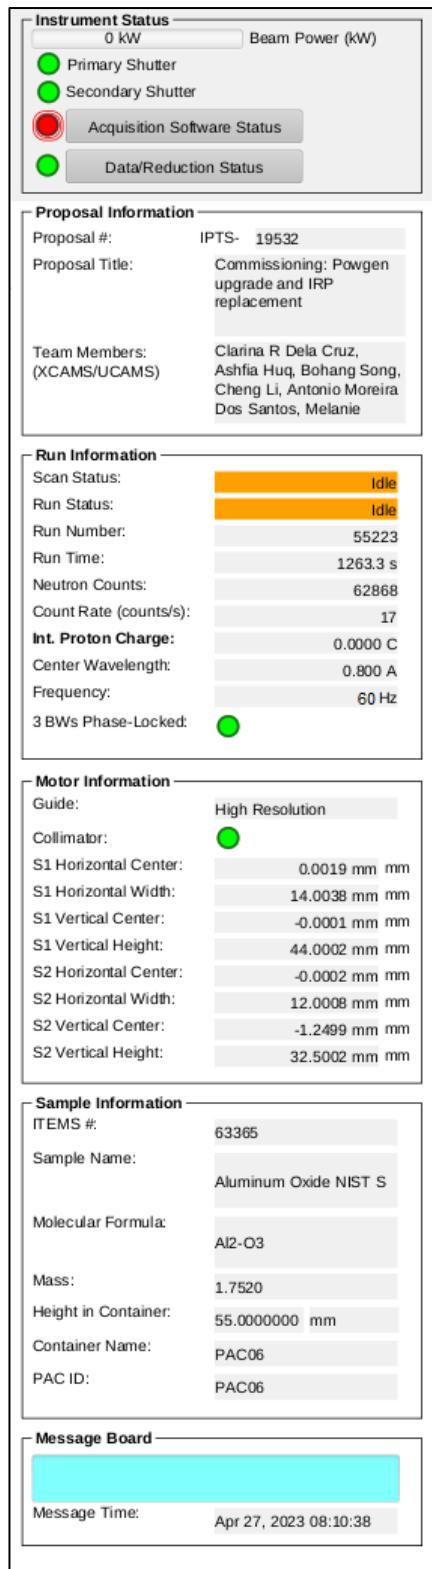

Figure 3. Instrument Status section of the dashboard.
**Instrument Status Display** The left column (Figure 3) of the dashboard displays the instrument status, including beam power and shutter status indicators at the top. The Proposal Information box indicates the currently selected proposal. The Run Information box includes status indicators for the scan (i.e. the table scan script) and the run (i.e. the individual data run), as well as the total time and collected beam (Int. Proton Charge) for the current run. In the same box is the status of the bandwidth choppers, including the selected center wavelength and frequency. The Motor Information box displays the current guide setting and slit positions. The Sample Information box displays the sample name, composition and other details. The Message Board is a place to leave quick notes for the instrument scientist or fellow proposal team members.